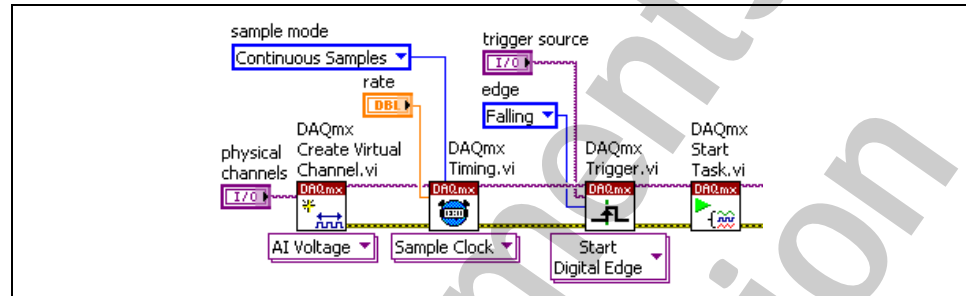

Figure 3-16. Triggered Continuous Buffered Acquisition VI Block Diagram
- ❑ Insert triggering as shown in Figure 3-16 by right-clicking the task name wire between the DAQmx Timing VI and the DAQmx Start VI and selecting **Insert»DAQmx - Data Acquisition Palette»DAQmx Trigger VI**.